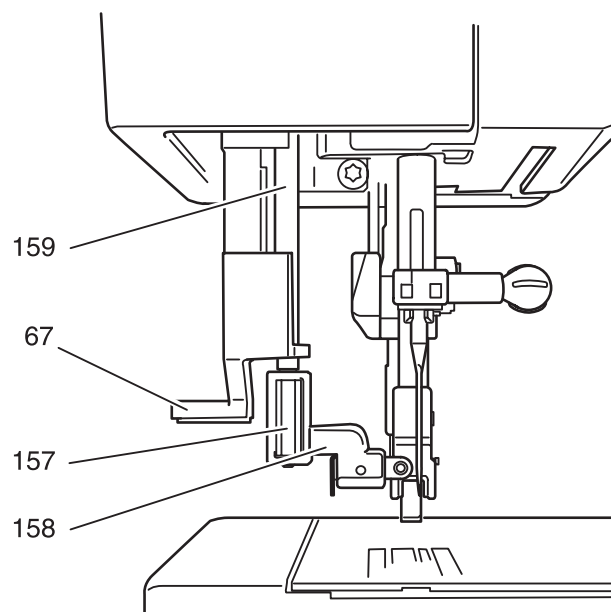

Fig. 106
- Press threader key 67 down completely and keep it pressed (fig. 106).